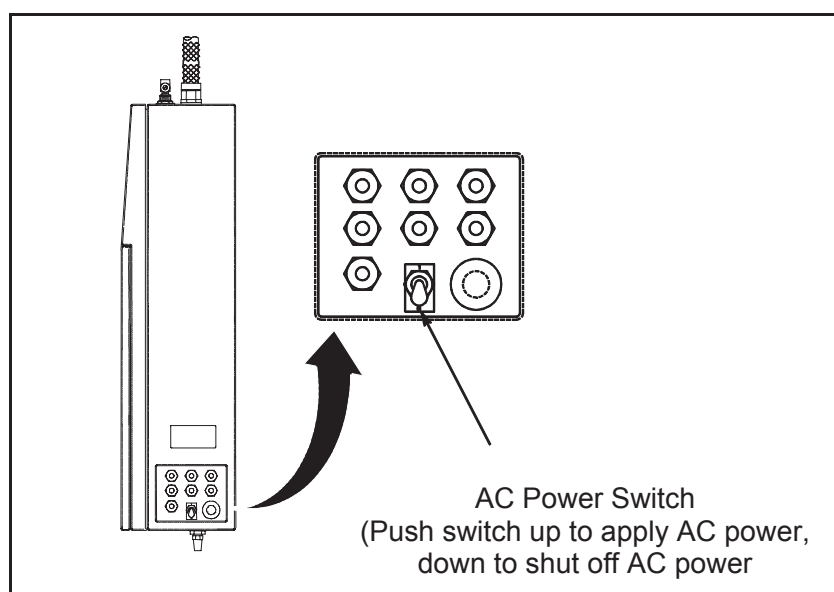

Figure 6-4. AC Power Switch
2. Place the AC power switch in the Off (O) position. Refer to Figure 6-4 for the location of the AC Power Switch.